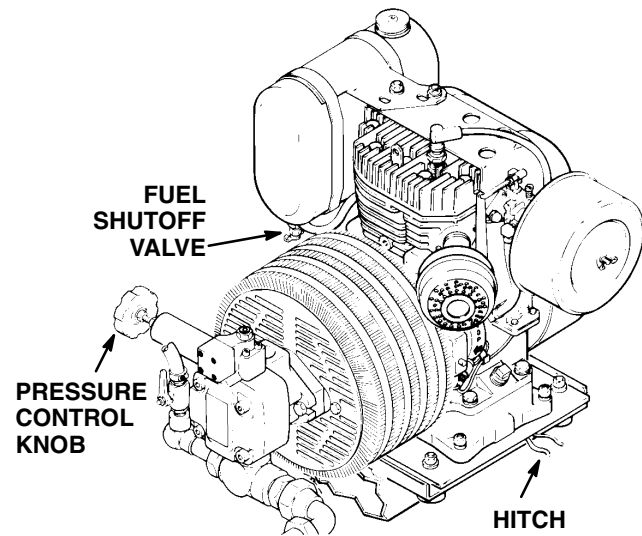

Fig 5
4. Turn the pressure control knob *counterclockwise* until all spring tension is relieved. You will be able to feel it. The sprayer is now set at the lowest pressure setting. Turning the knob further will remove it. Tighten the knob locknut to set. See Fig 5.
7. Disengage the foot brace from the hitch and lower it. See Fig 5.
11. After the engine is warm, gradually open the choke lever (turn to OFF position) and close the bypass valve. See Fig 5 and 6.